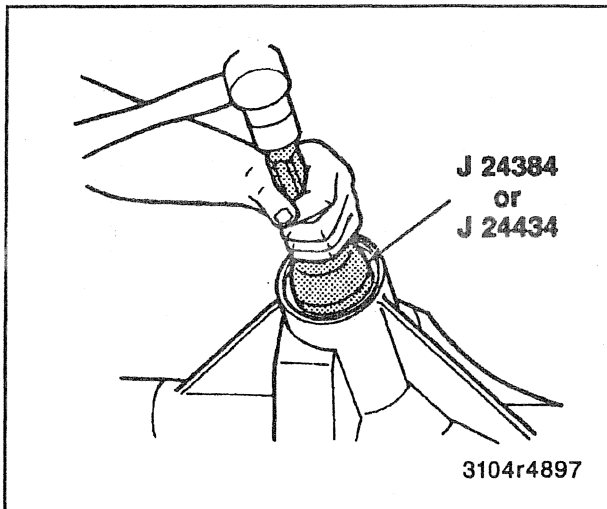

Figure 36—Installing Pinion Oil Seal into Bore
1. Oil seal into the bore using J 24384 (figure 36).